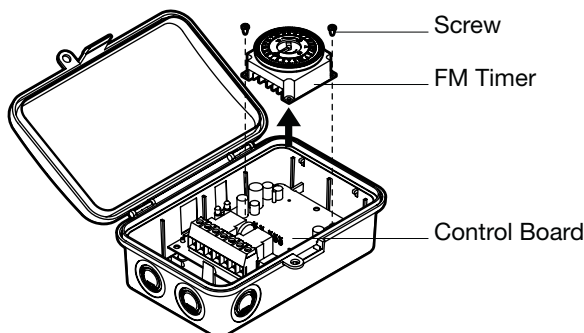
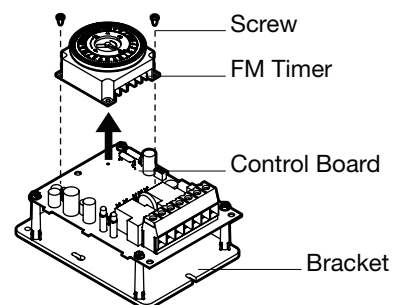

FIG. 3 Remove the FM Timer (Enclosed Model Shown)
FIG. 4 Remove the FM Timer (Salable item DT-B. See DT-B Installation Instructions.)
3. The existing control may be installed in an enclosure (as shown in FIG. 3, for example) or secured via a bracket inside the condensing unit control panel (as shown in FIG. 4, for example). The installation of the ICUBE™ module is the same for both instances.
1. Remove the FM timer from the control board. See FIG. 3 or FIG. 4.